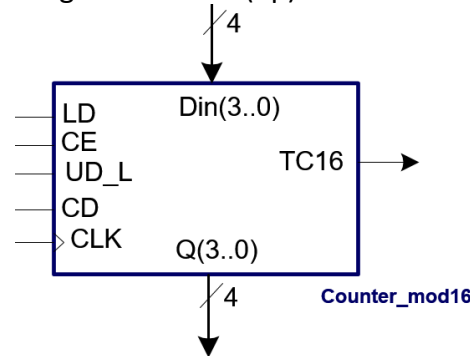

Fig. 6
2. Using a plan C2 strategy and the universal chip in Fig. 6 design the internal architectures of the *Counter_mod4* and the *Counter_mod8* required in the project for delaying four CLK_RX, eight CLK_RX and also for counting the eight data bits. (1p)
4. Invent the internal architecture of the *Data_reg_8bit* circuit using only components *Counter_mod16* represented in Fig. 6. (0.5p)